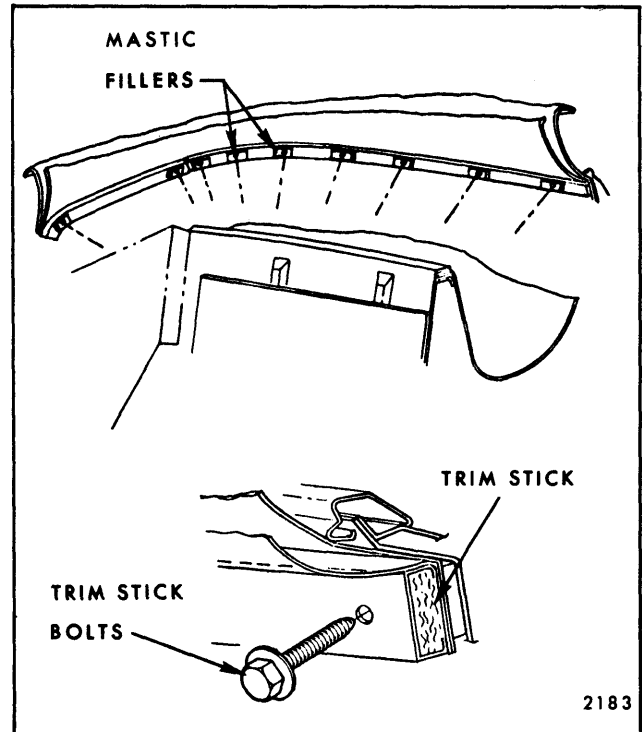

Fig. 13-55—Checking Trim Stick Fillers - "F and Z" Styles
4. On "F" and "Z" styles, inspect and, if necessary, install mastic type fillers around holes of folding top compartment rear panel for proper sealing of bolts (Fig. 13-55).